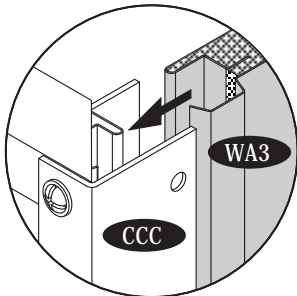

Fig.1
40. Insert the wall panel (WA3) into the base 'U' channel (BC1C) and slide into the corner column (CCC). See fig.1&2.